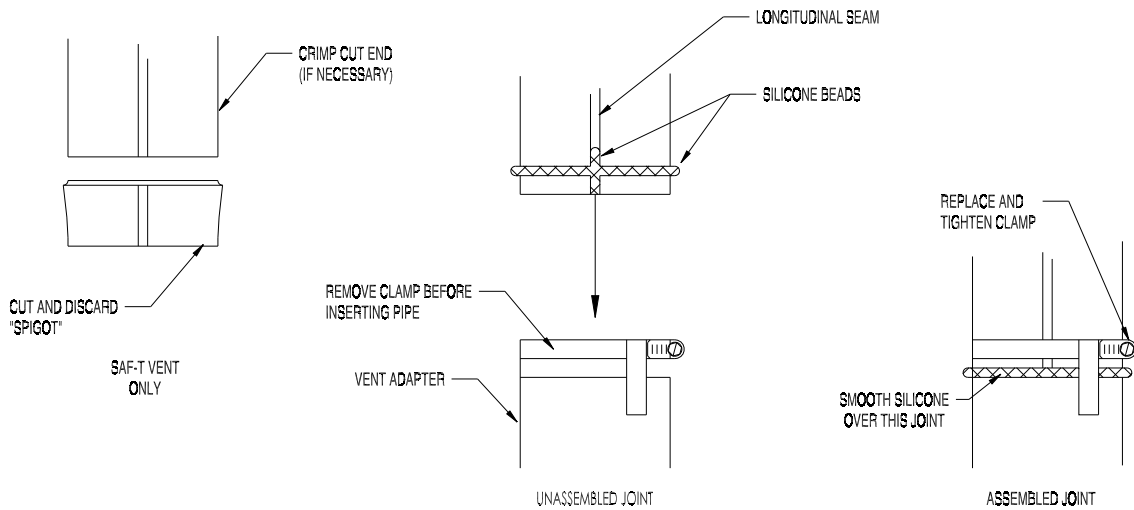

Figure 7-11: Connection of First Vent Pipe to Boiler Vent Adapter
- iv. On the male end of the pipe, apply a ¼ in. wide bead of high temperature silicone approximately ½ inch from the male end of the pipe. Also apply a ¼ in. bead of silicone along the first 2 ½ in. of the longitudinal weld as shown in Figure 7-11.
- vi. Apply an additional bead of silicone over the outside of the joint and smooth out (Fig 7-11). Also apply silicone over the seams in the vent adapter.